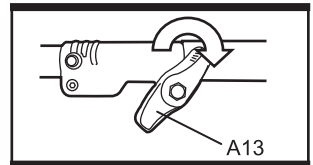

Fig. 3c
- c). Secure the connection by tightening the locking knob (A13) clockwise. (See Fig. 3c)